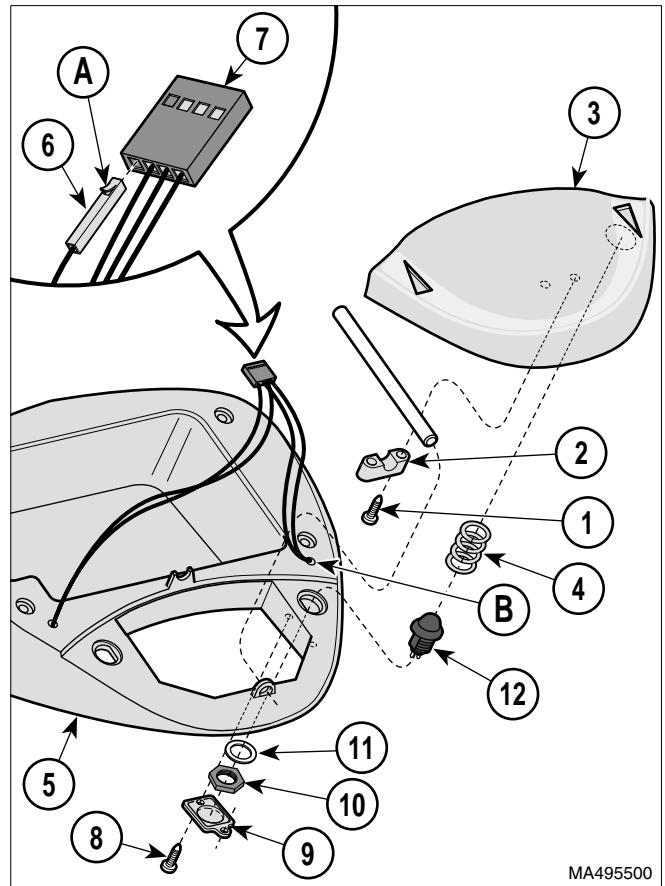

Figure 4-35. Foot Control *Foot Pedal* Switch Removal / Installation
- (1) Remove foot control top. (Refer to para 4.21 *or* 4.22).
- (2) Remove four screws (1, Figure 4-35), two pedal caps (2), foot control pedal (3) and two springs (4) from foot control base (5).
- (3) Tag switch lead (6) with position; then using an instrument with a sharp point, gently depress release tab (A) and pull lead from wire harness connector (7). Repeat this procedure for the second switch lead.
- (4) Remove two screws (8) and switch cover (9).
- (5) Pull two switch leads (6) thru hole (B).
- (6) Remove nut (10), lockwasher (11) and switch (12) from foot control base (5).